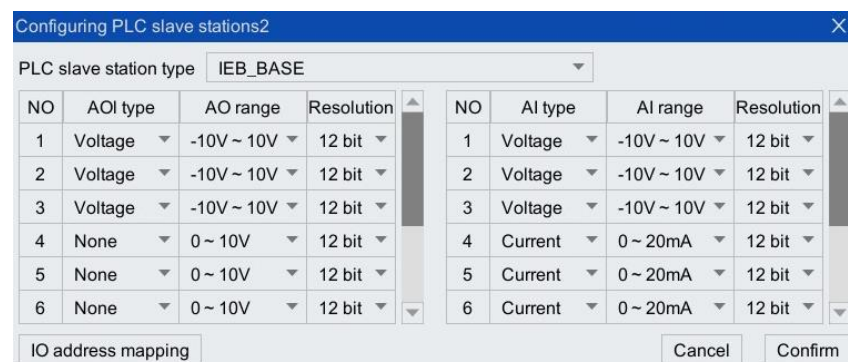

Figure 18-24 [Configuring PLC slave] interface parameter configuration example
Step8. Select "IEB" or "IEB\_BASE" in [PLC Slave Type], and configure the type and range of AO and AI signals shown in Figure 18-24.